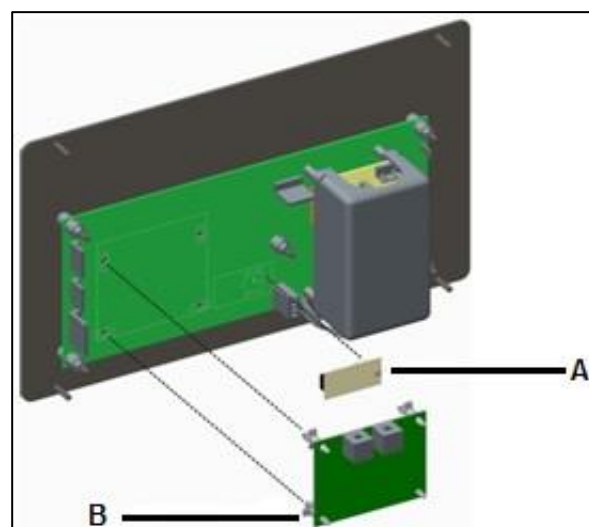

Fig. 3.3
4. If the old board has the clock card **A** fitted (Fig. 3.3), remove it and fit it onto the new board.
5. If the old board is fitted with communications board **B** (Fig.3.3), also remove it and fit it onto the new board.